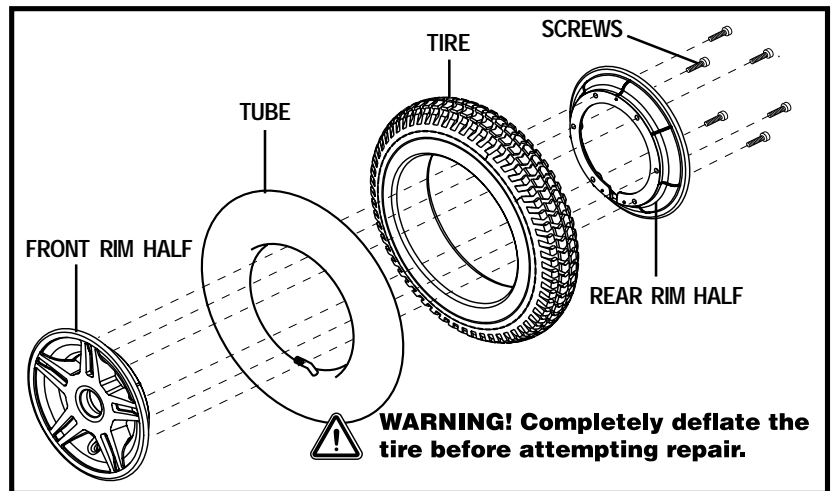

Figure 26. Quantum 500 Drive Wheel Disassembled
6. Remove the screws that fasten the two rim halves together. See figure 26.